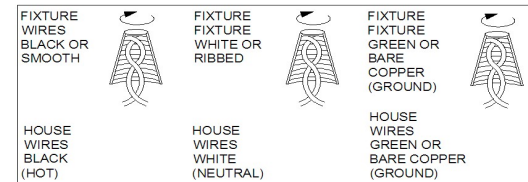

Fig 3
#### Replacing LED module (Fig. 3)
The LED module can be replaced by a qualified electrician without cutting of wire and without damage to any decorative element to which the fixture is attached. See installation steps for more details (Fig.3.)
1. There is 1 LED module in each square of the fixture. If one of them do not work, replace it as shown in Fig. 3. Make sure the power is off before you replace.
2. Unscrew screws (G) and the ground screw (D) with screwdriver and disconnect the ground wire and loosen the wire connectors (N) to remove the fixture from the wall.
3. Loosen wire connectors (E), disconnect the wires respectively, and then unscrew screws (H) and screws (L) to remove lamp shade (M) and cover (K), replace a new module (J).